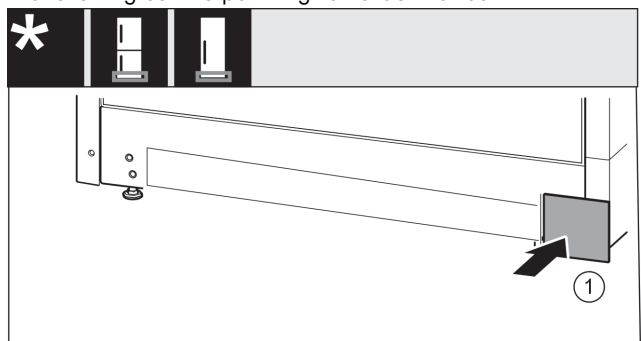

Fig. 30
- Re-attach the cover Fig. 30 (1) to the other side.